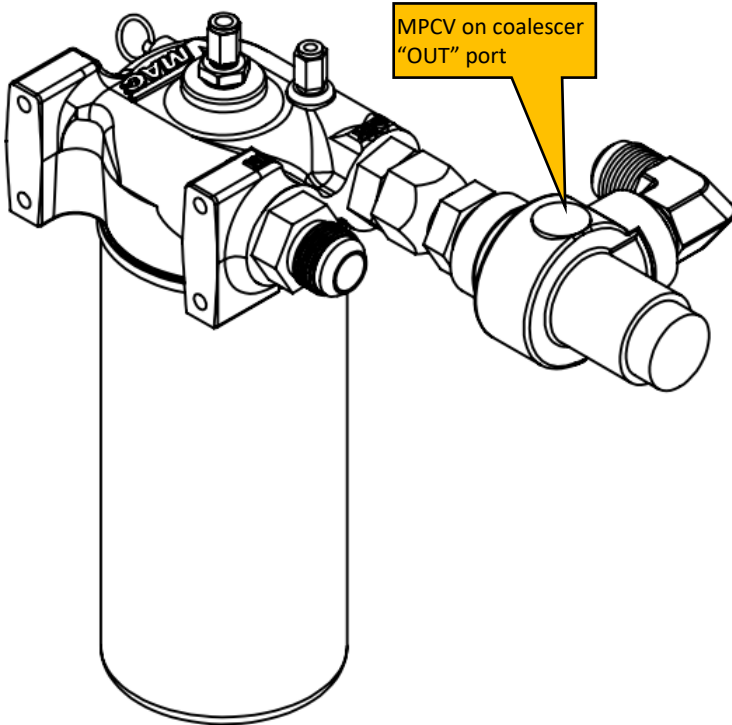

Figure 7 - Recommended MPCV Position
- Ensure that the Minimum Pressure Check Valve (MPCV) – 3600152 on the coalescer is in the position and orientation shown in Figure 7. Alternatively, the MPCV can also be mounted anywhere downstream from the “OUT” port of the coalescer. When connecting JIC fittings, follow the guideline illustrated on pg13.